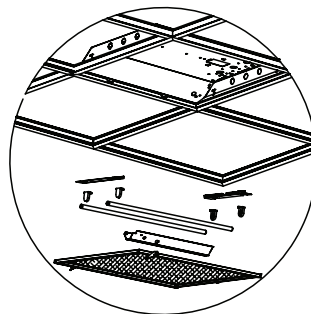

Figure 1
1. Prior to installation, disconnect all incoming power to the luminaire. Remove the existing hardware (lens/lens frame or parabolic louver, reflectors/ballast covers, brackets, lamps/lamp holders, etc.). Leave the supply and grounding leads in place. (See Fig. 1)